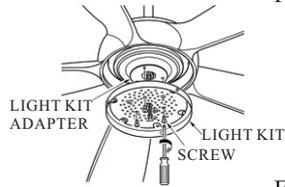

FIG. 13
3. Gently pull the wires through light kit. Align the 3 round holes on light kit with 3 holes on light kit adapter. (see Fig. 13)